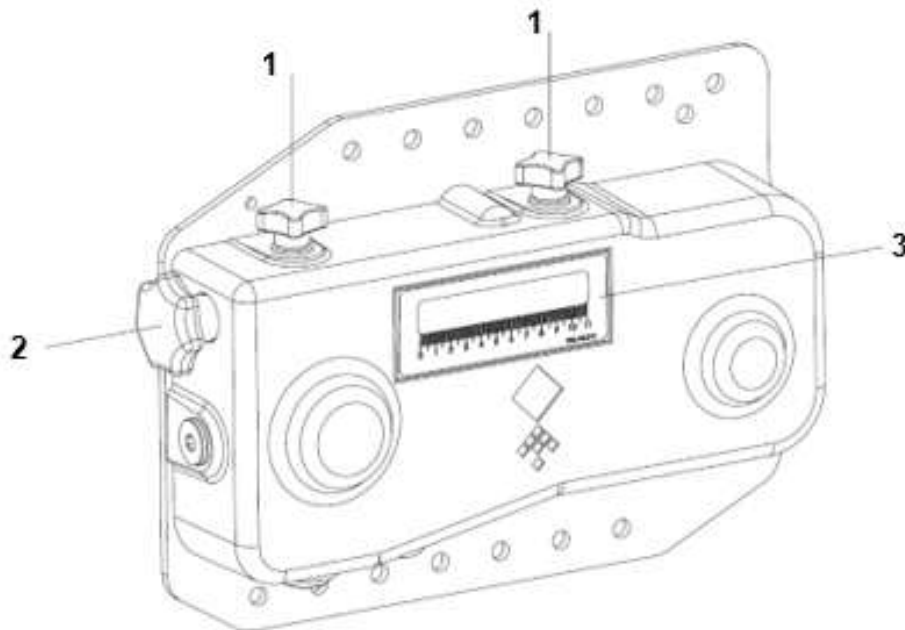

Fig. 9
1. Loosen the knobs (1) (see Fig. 9).
2. Rotate the knob (2) to change the settings. You can see the settings on the decal (3).
3. Retighten the knobs (1).